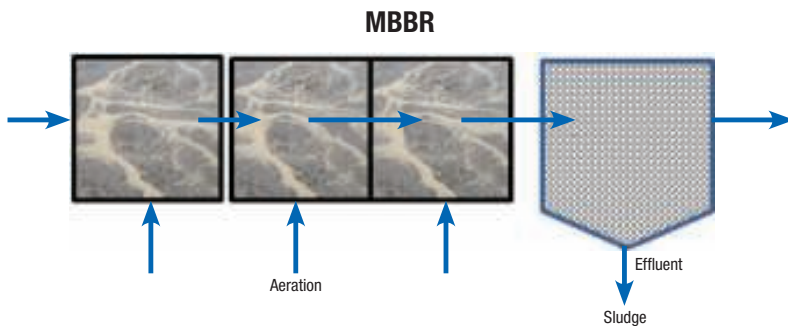

FIGURE 2. This schematic shows a moving bed biofilm reactor (MBBR) with water flowing from left to right through media with aeration
Moving bed biofilm reactor (MBBR). A schematic of an MBBR is shown in Figure 2. Secondary treated water flows from left to right, through biofilm carrier elements or media in an aerated bioreactor. The biofilm is attached to the media. Typical carrier elements look like pretzels with inner and outer grooves and ridges: but the quantity, shapes and sizes depend on the specific application, based on water temperature, pH, capacity, constituents and required effluent quality.
FIGURE 2. The flow cup test is relatively easy to setup and perform, and the data are used to calculate the Carr index, Equations (1), and Hausner ratio, Equation (2)
Flow cup. The most popular testing method is the flow cup, which is quick and easy to use. The cup is basically an open cylinder with a removable disc that is inserted into the bottom (Figure 2). A family of discs, each with a different hole diameter in the middle, is provided with the cup. Once the disc is in place, the cup is filled with powder and the operator observes whether the material discharges through the hole. Processors may know from experience what difficulties they are likely to face depending on the hole diameter that